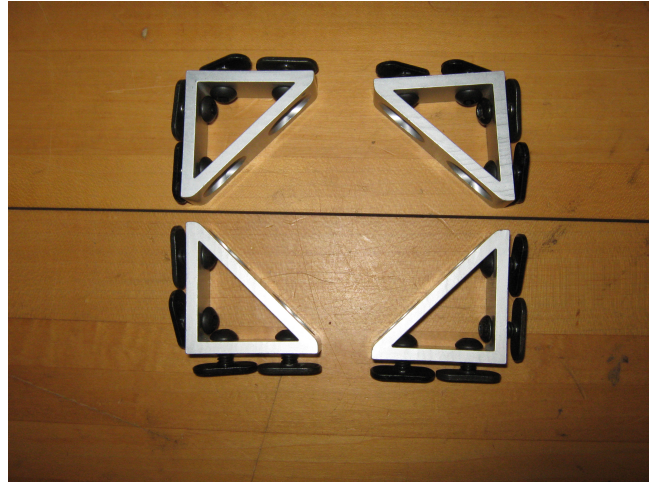

Figure 6: Angle brackets with sliders.
2. Put 1/4-20 bolts and sliders on all the angle brackets, as shown in Figure 6. Do not tighten them down.